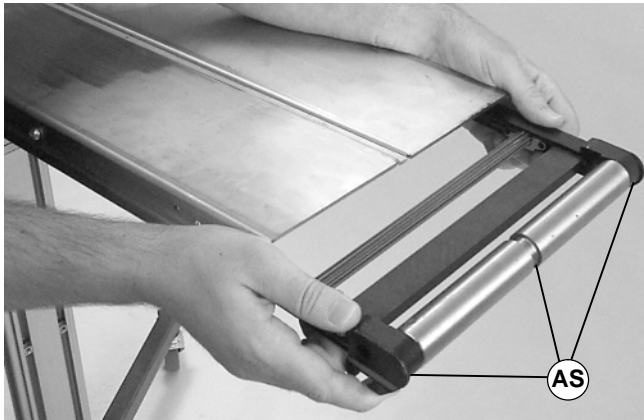

Figure 33
3. Remove tail assembly (AS of Figure 33).